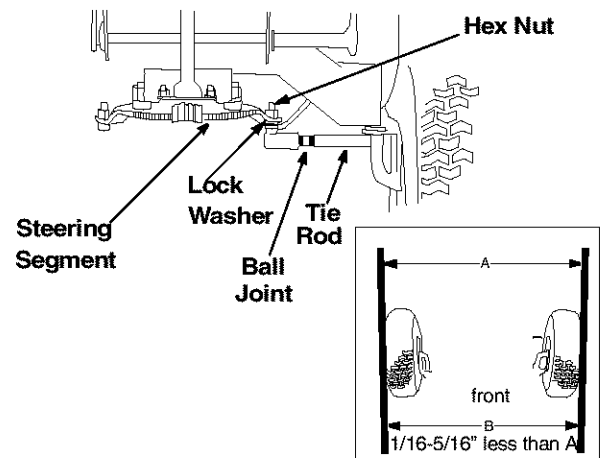

Figure 14
- Remove the 3/8" hex nut and lock washer which holds the ball joint to the steering segment. See Figure 14.
- Adjust the ball joint in or out until the wheels toe-in approximately 1/16-5/16" (Dimension "B" should be approximately 1/16-5/16" less than dimension "A"). See Figure 14.